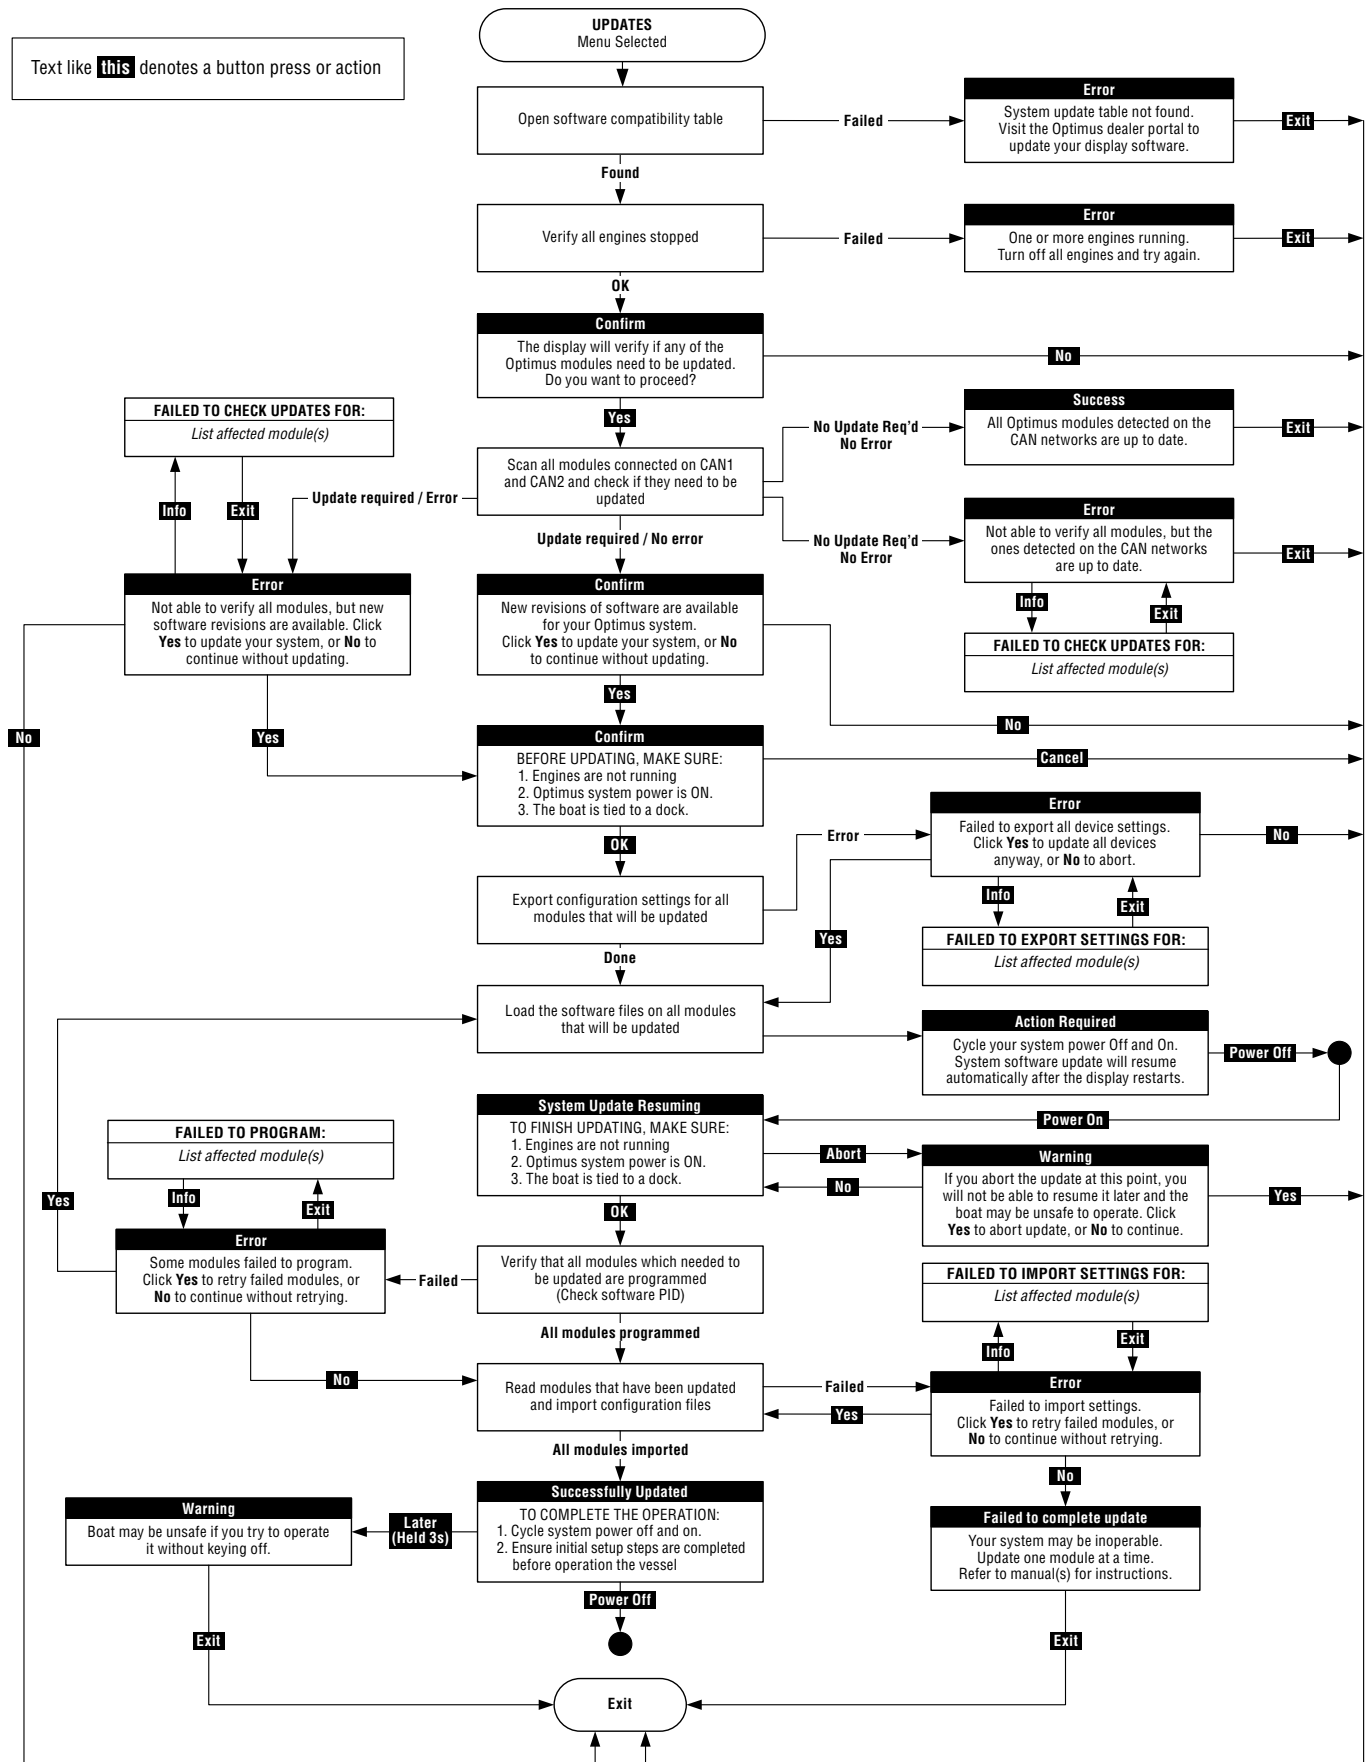

Figure 11-4. Software update process using CANtrak.
1. Navigate to **Dealer Menu > Initial Setup > 2) Updates** and press **>**. The system will check the revision level of all installed components and prompt if an update is required. Follow the instructions on the display to complete the update. The flowchart in figure 11-4 shows what's going on behind the scenes. You don't need to know this, but it may be helpful in the event of an error.